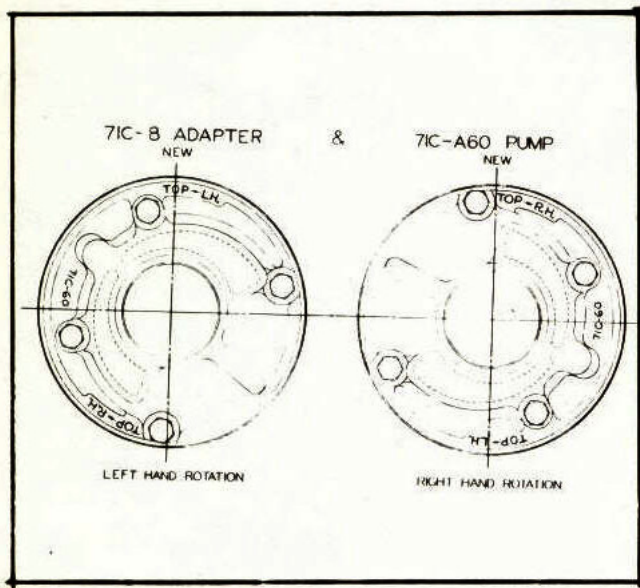

Fig. 65 Orientation Markings for Present 71C-A60 Pump on the 71C-8 Adapter
70. Orient the pump mounting bolt holes and arrow indicating direction of rotation to correspond with the direction of rotation required by the engine, (Fig. 65). If not installed for the proper rotation the pump will not produce oil pressure to operate the transmission when engine is started.